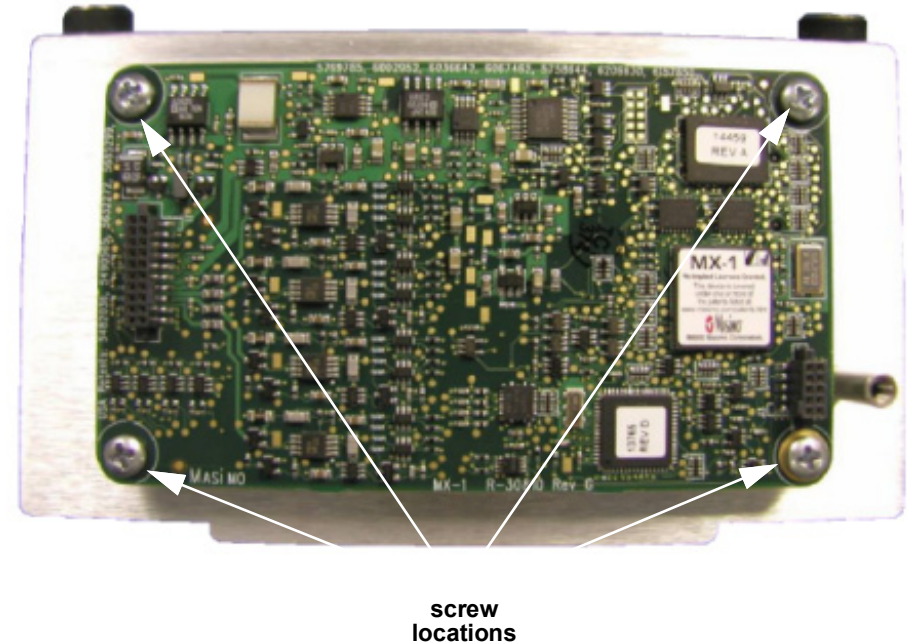

Figure 8.71—SpO2 PCB screw locations
2. Attach the SpO2 module to the bracket using four new screws (REF F18); torque to 4.0 in-lb (see Figure 8.71 on p. 279).